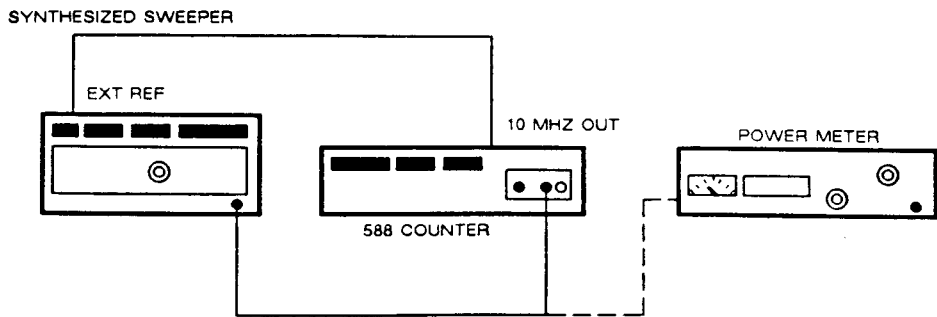

Figure 4-7. Band 2 Sensitivity Test Setup
1. Connect equipment as shown in Figure 4-7.